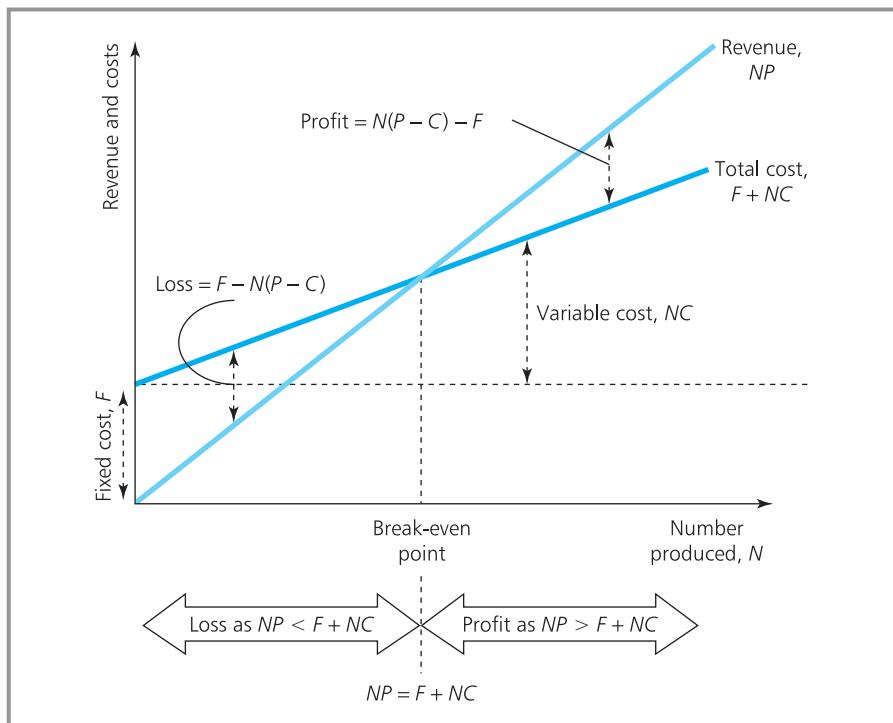

Figure 8.2 Profit and loss around the break-even point
- When the number of units sold is higher than the break-even point, revenue is greater than total cost and there is a profit (shown in Figure 8.2):